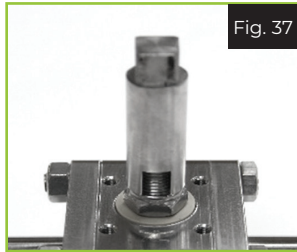

Fig. 37
2. If the valve has heater jacket standoffs, remove them and place them with the actuator assembly. Remove the actuator adaptor and place it with the actuator assembly (Fig 37).